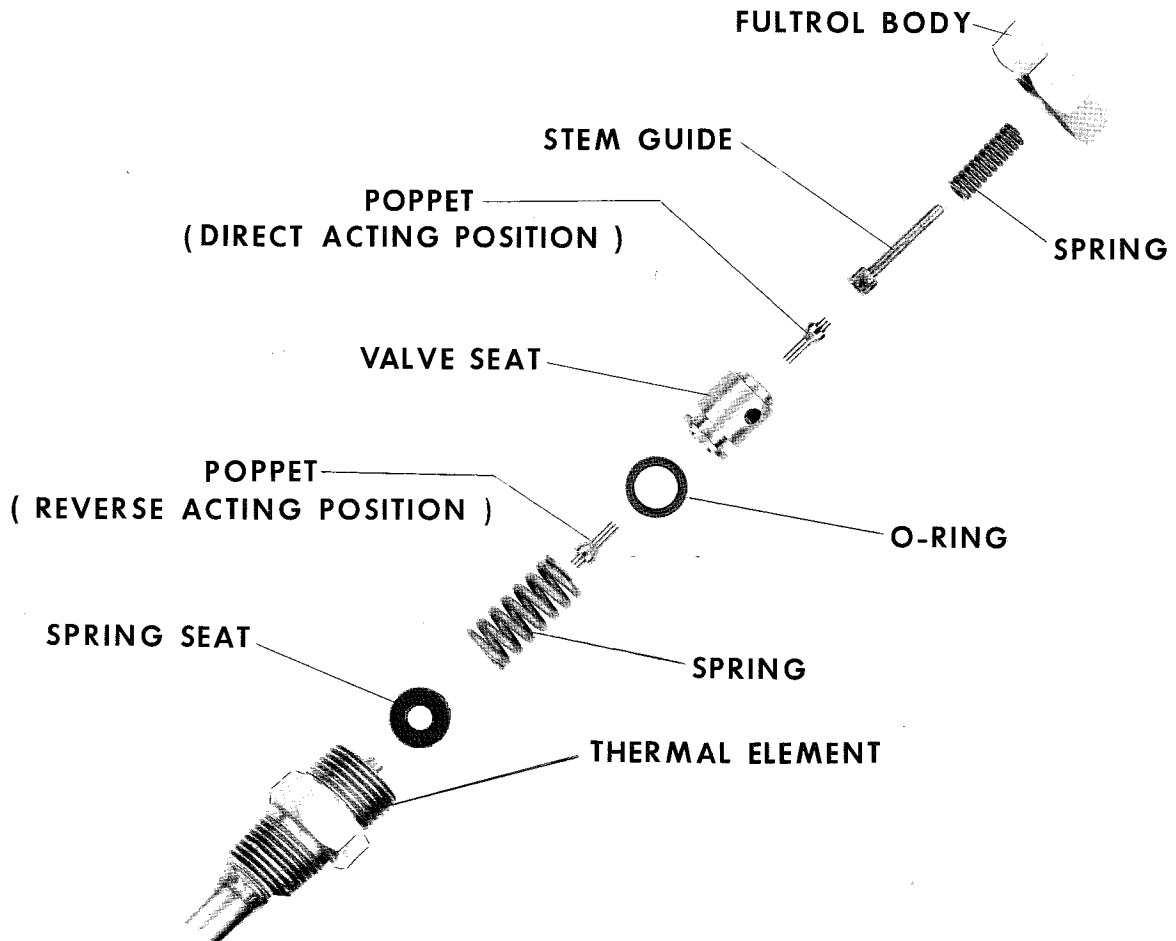

Figure 1
- (b) Disengage thermal assembly from body, leaving spring and spring seat (Figure 1) in place.
- (c) Remove valve seat and poppet (Figure 1) from valve body, carefully noting position and order of disassembly.
- (e) Replace poppet and valve seat, making sure that the valve seat is oriented in the same relative position as before disassembly. Care should be taken to see that the end of the poppet fits into drilled hole in the end of the stem guide (Figure 1).